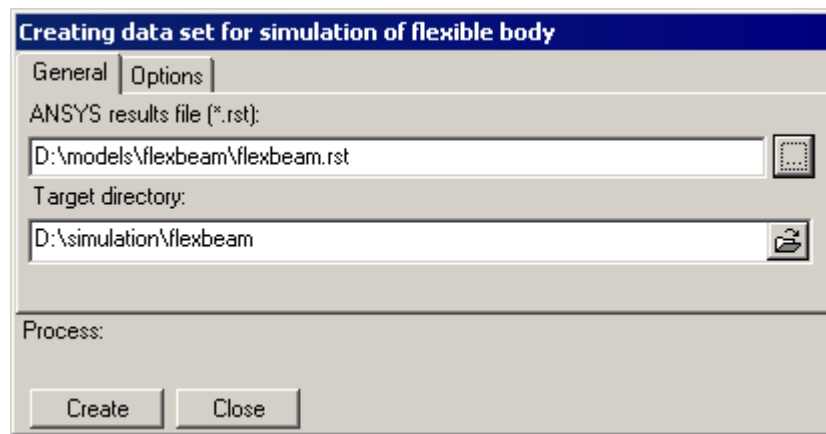

Figure 2.2. Main window of the ANSYS\_UM program.
4. If you changed path to the `ansys_um.exe` program in `um.mac` properly then `um.mac` runs `ansys_um.exe` automatically. Otherwise run the `{um_root}\bin\ansys_um.exe` manually. The main window of `ansys_um` appears, Fig. 2.2.
5. Point to the **General** tab. The **ANSYS results file (\*.rst)** set to `.\flexbeam\flexbeam.rst`, **Target directory** set to `.\flexbeam`, see Fig. 2.2.